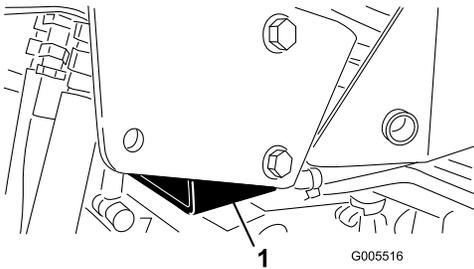

Figure 26
- Right side—under the jack pad and adjacent to the ROPS-support bracket (Figure 26)